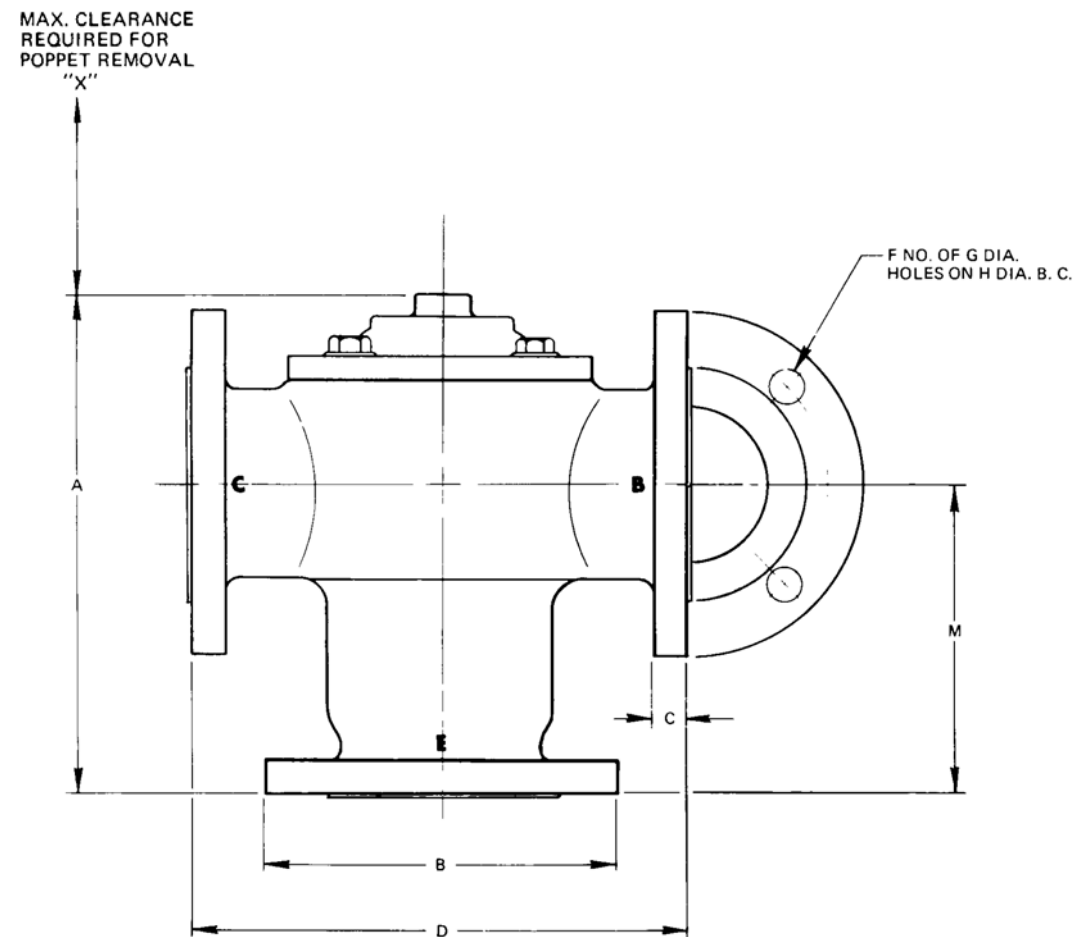

Figure 1
- Dimensions** .....See Figure 1